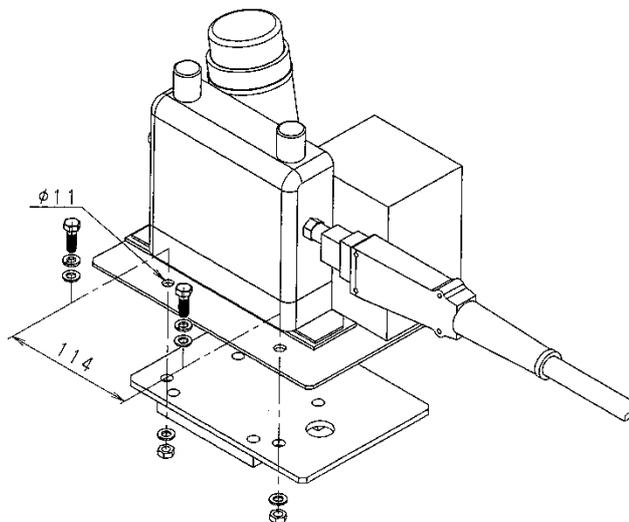

Fig. 1.2 Mounting of wire feeding unit (Procedure 2)
2. Referring to Fig. 1.2, mount the wire feeding unit to the fixing bracket. For mounting, use the hexagon head bolts and washers and nuts provided with the wire feeding unit.
For RA05L, the wire feeding unit cannot be mounted on the arm. Accordingly, mount it separately from the arm by yourself with consideration of workpieces and other obstacles. (See Fig. 1.2 as a reference when mounting it.)